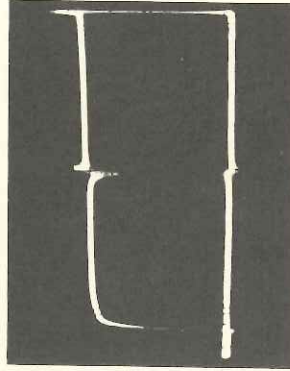

Figure 19. 10.7 MHz Sweep Trace
6. Remove 455 kHz crystal from crystal socket, and insert 10.7 MHz crystal. Set the Range Switch to 10.7 MHz "SWP". Adjust core of coil L-8 so that 10.7 MHz marker is in center of trace, as shown in Figure 19.